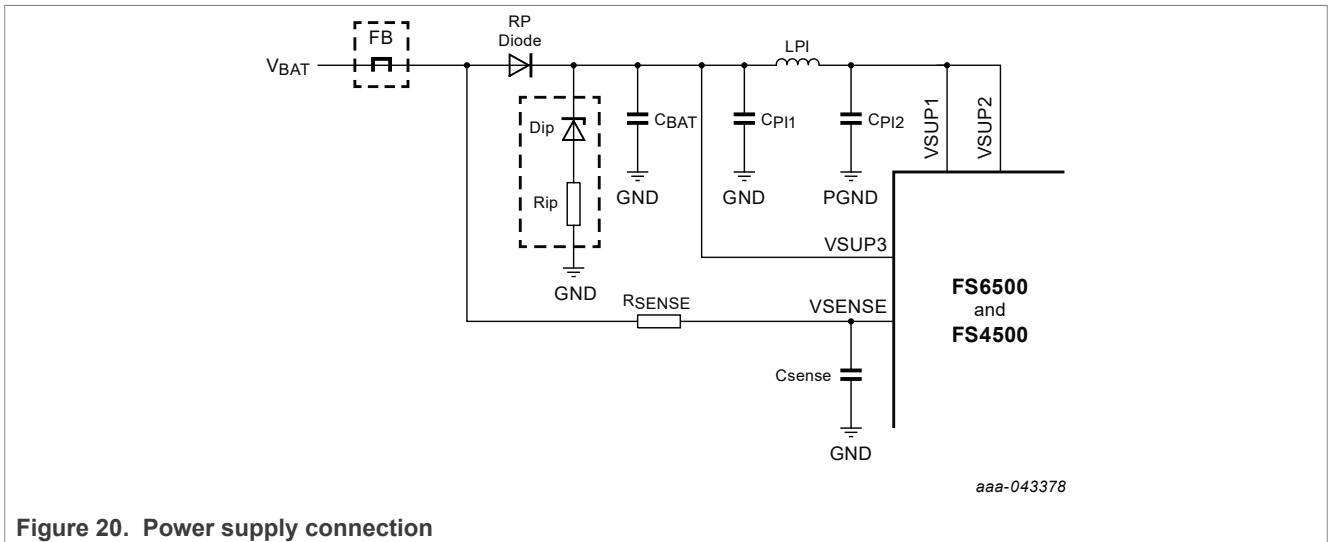

Figure 20. Power supply connection
- The current pike in  $R_{SNUB\_V_{PRE}}$  at each  $V_{PRE}$  cycle is important.  $R_{SNUB\_V_{PRE}}$  resistor must be at least a 1/4 W resistor type for  $V_{SUPMAX} = 18$  V.  $P(R_{SNUB\_V_{PRE}}) = 1/2 * C_{SNUB\_V_{PRE}} * (V_P^2 + V_N^2) * F_{SW}$  where  $V_P$  and  $V_N$  are the voltage levels (positive and negative) measured at the resistor  $R_{SNUB\_V_{PRE}}$  (see Figure 20).
- From Figure 20,  $P(R_{SNUB\_V_{PRE}}) = 1/2 * 4.7$  nF \*  $(14.7^2 + 3.6^2) * 440$  kHz = 0.237 W.